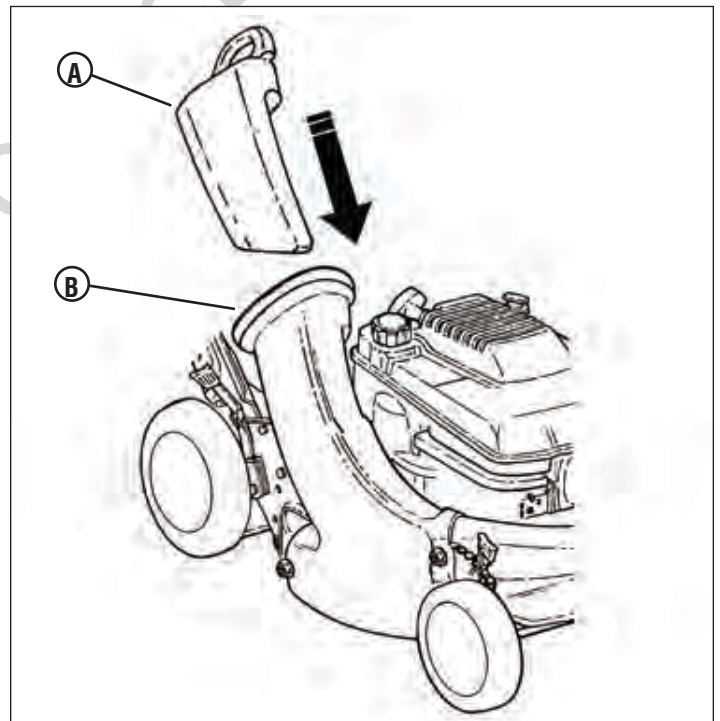

Figure 18
- Insert the recycling plug (A, Figure 18) completely and securely into the adapter (B).